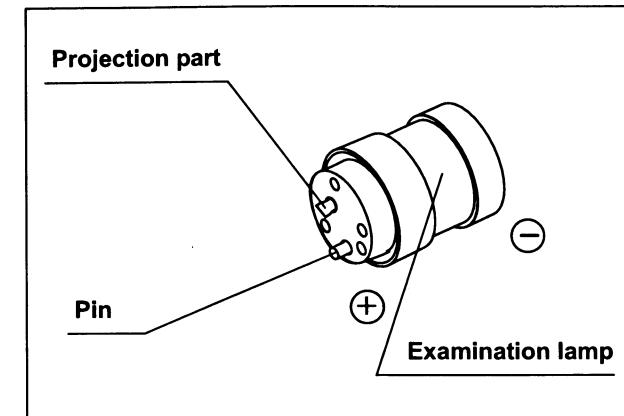

Figure 5.1
- When disposing of the used lamp, make sure to cut the projection part of the electrode on the "+" side of the examination lamp by using a nipper and discharge the internal gas (see Figure 5.1). Otherwise, the glass could break due to the high internal pressure of the lamp.